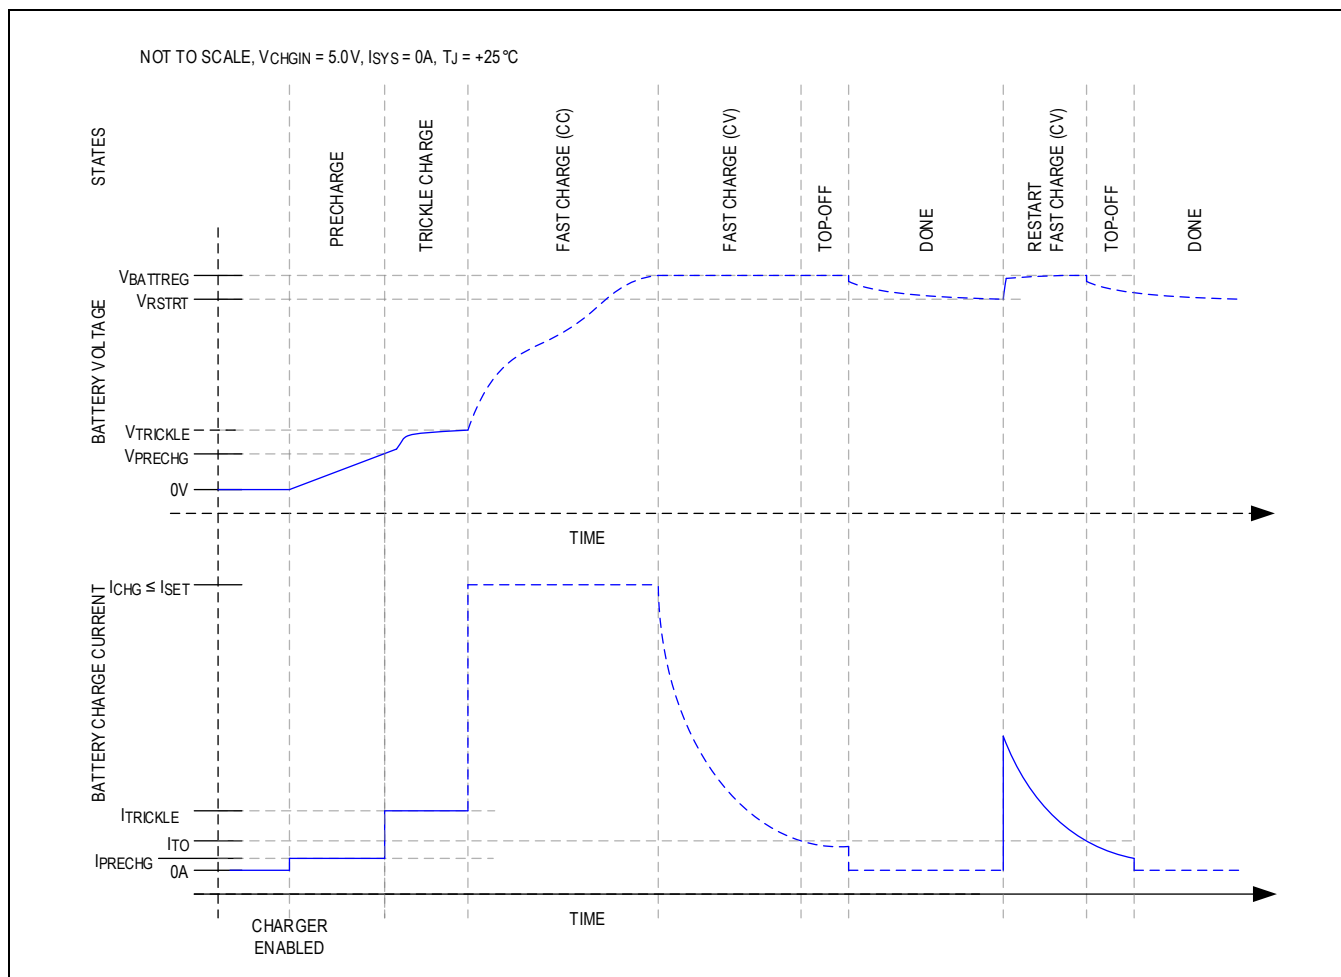
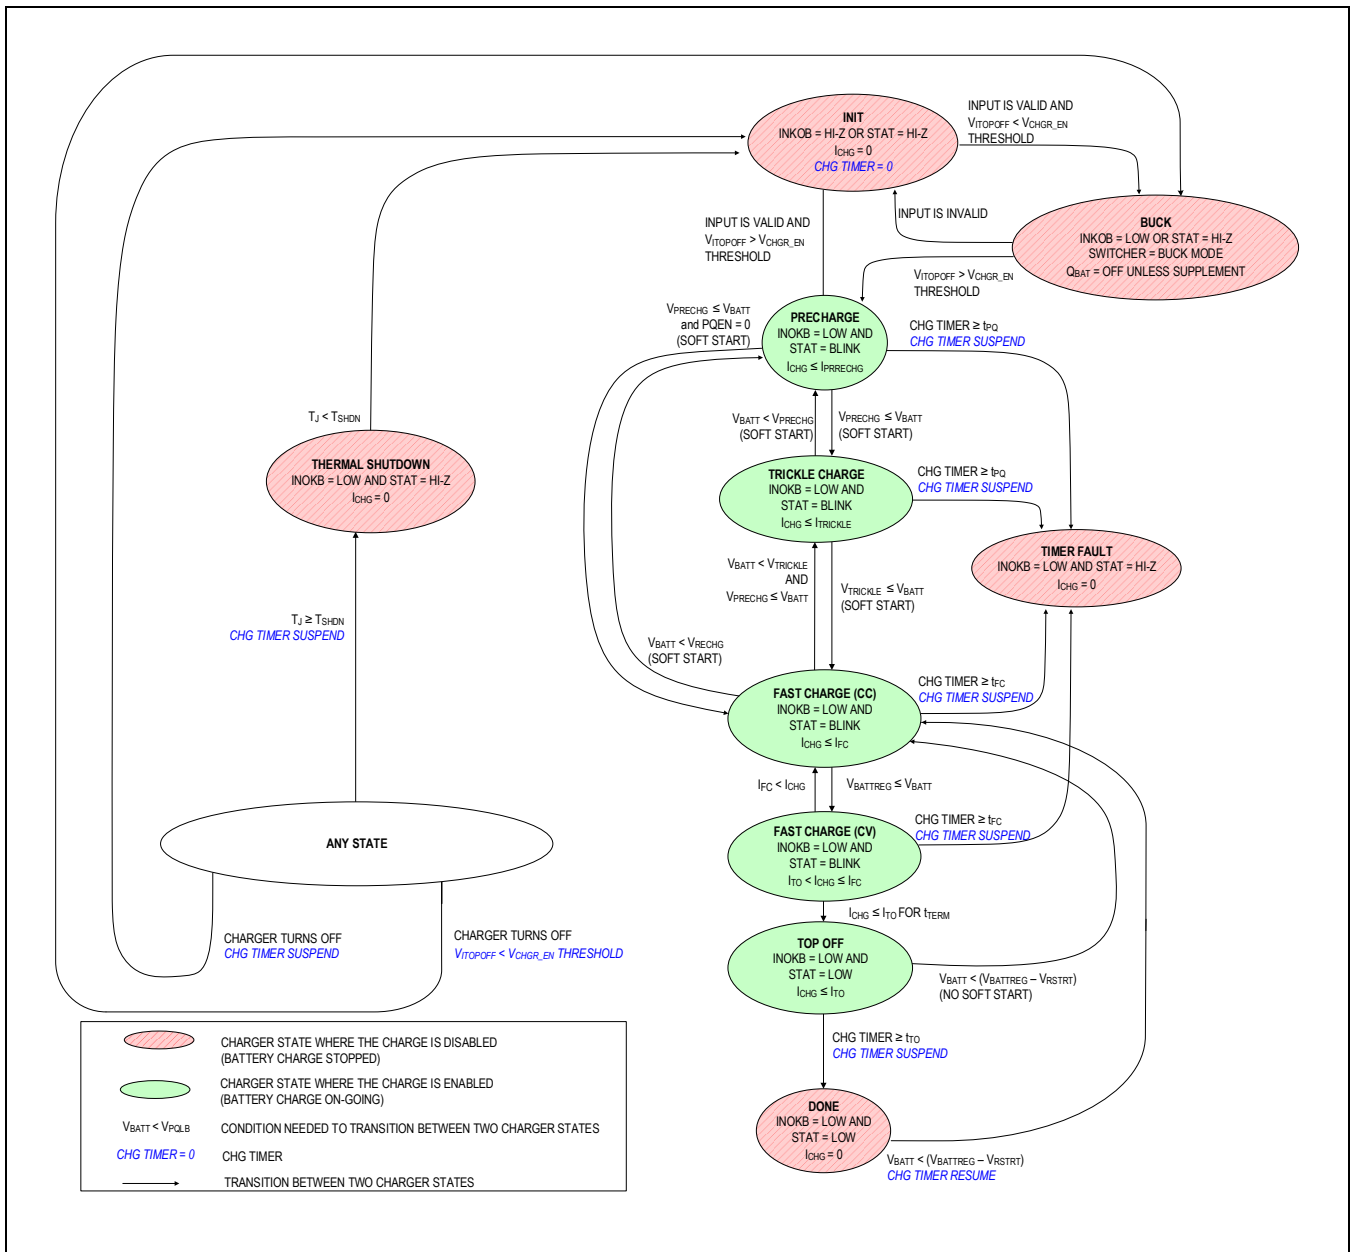

Figure 5. Li+/Li-Poly Charge Profile
Figure 6. Charger State Diagram
The MAX77751 utilizes several charging states to safely and quickly charge batteries, as shown in Figure 5 and Figure 6. Figure 5 shows an exaggerated view of a Li+/Li-Poly battery progressing through the following charge states when there is no system load and the die and battery are close to room temperature: precharge → trickle → fast-charge → top-off → done.
From any state shown in Figure 6 except thermal shutdown, the INIT state is entered whenever the charger inputs that CHGIN is invalid or the charger timer is suspended.
The chip has a state where battery charging is disabled while the charger input CHGIN is valid. The state is called buck state. Entering or leaving buck state is controlled by the voltage of the ITOPOFF pin. If the voltage of this pin is pulled down by an external device (i.e., MCU) under  $V_{CHGR\_EN}$ , the chip goes to the buck state from any state if CHGIN is valid, as shown in Figure 6. In the buck state, charging is disabled, which means  $Q_{BAT}$  is off, unless it is in supplement mode. If the voltage of this pin is over  $V_{CHGR\_EN}$ , the chip gets out of the buck state and resumes charging. Note that only when CHGIN is valid, charging can be enabled or disabled. Therefore, the external device (i.e., MCU) should check using the INOKB signal if CHGIN is valid before trying to enable or disable charging.
As shown in Figure 6, the precharge state occurs when the battery voltage is less than  $V_{PRECHG}$ . In the precharge state, charge current into the battery is  $I_{PRECHG}$ .
As shown in Figure 6, the trickle charge state occurs when  $V_{BATT} > V_{PRECHG}$  and  $V_{BATT} < V_{TRICKLE}$ .
As shown in Figure 6, the fast-charge constant current (CC) state occurs when the battery voltage is greater than the trickle threshold and less than the battery regulation threshold ( $V_{TRICKLE} < V_{BATT} < V_{BATTREG}$ ).
As shown in Figure 6, the fast-charge constant voltage (CV) state occurs when the battery voltage rises to  $V_{BATTREG}$  from the fast-charge CC state.
In the fast-charge CV state, the battery charger maintains  $V_{BATTREG}$  across the battery, and the charge current is less than or equal to  $I_{FC}$ . As shown in Figure 5, the charger current decreases exponentially in this state as the battery becomes fully charged.
As shown in Figure 6, the top-off state can only be entered from the fast-charge CV state when the charger current decreases below  $I_{TO}$  for  $t_{TERM}$ . In the top-off state, the battery charger tries to maintain  $V_{BATTREG}$  across the battery, and typically, the charge current is less than or equal to  $I_{TO}$ .
As shown in Figure 6, the battery charger enters its done state after the charger has been in the top-off state for  $t_{TO}$ .
The battery charger provides a charge timer to ensure safe charging. As shown in Figure 6, the charge timer prevents the battery from charging indefinitely. The time that the charger is allowed to remain in each of its prequalification states is  $t_{PQ}$ . The time that the charger is allowed to remain in the fast-charge CC and fast-charge CV states is  $t_{FC}$ . Finally, the time that the charger is in the top-off state is  $t_{TO}$ . Upon entering the timer fault state, STAT becomes Hi-Z.
In the timer fault state, the charger is off. The charger input can be removed and re-inserted to exit the timer fault state (see the “any state” bubble in the lower left of Figure 6).
As shown in Figure 6, the thermal shutdown state occurs when the battery charger is in any state and the junction temperature ( $T_J$ ) exceeds the device’s thermal shutdown threshold (TSHDN). When  $T_J$  is close to REG, the charger folds back the input current limit to 0A so that the charger and inputs are effectively off (see the Thermal Foldback section).